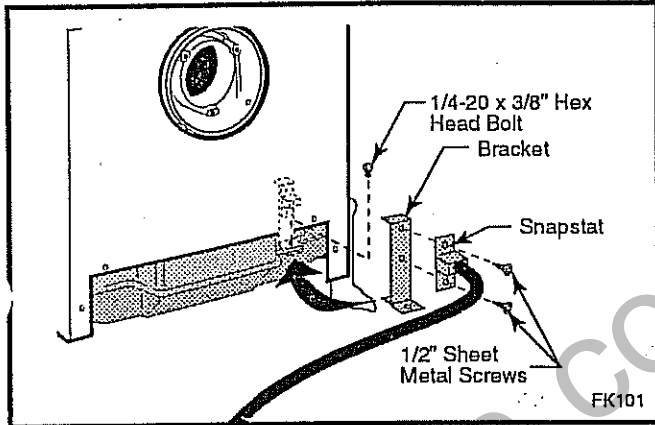

Fig. 33 Snapstat assembly and installation.
1. Attach the Snapstat to the Bracket using two #10 x 1/2" phillips sheet metal screws as shown in Figure 33.
2. Locate and remove the 1/4-20 x 3/8" hex head bolt installed in the hole in the right rear ledge of the firebox. (A, Fig. 33) Use that bolt to secure the Snapstat Bracket to the firebox. The mounting hole is slotted to allow you to adjust the bracket so that its head makes contact with the firebox surface. (Fig. 33)